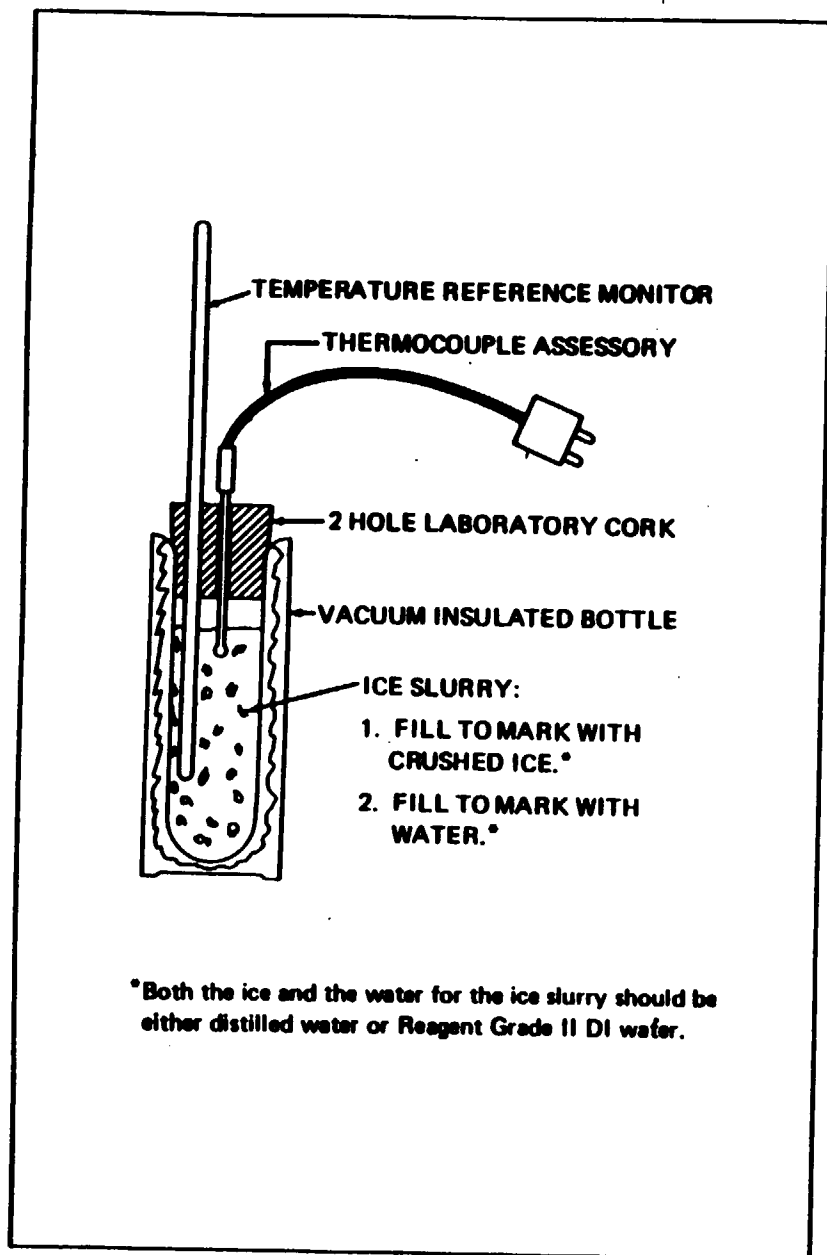

Figure 4-6. Log Bath
19. Establish a lag bath (ice point environment) as shown in Figure 4-6 and allow the lag bath to sit for 30 minutes to reach thermal equilibrium.